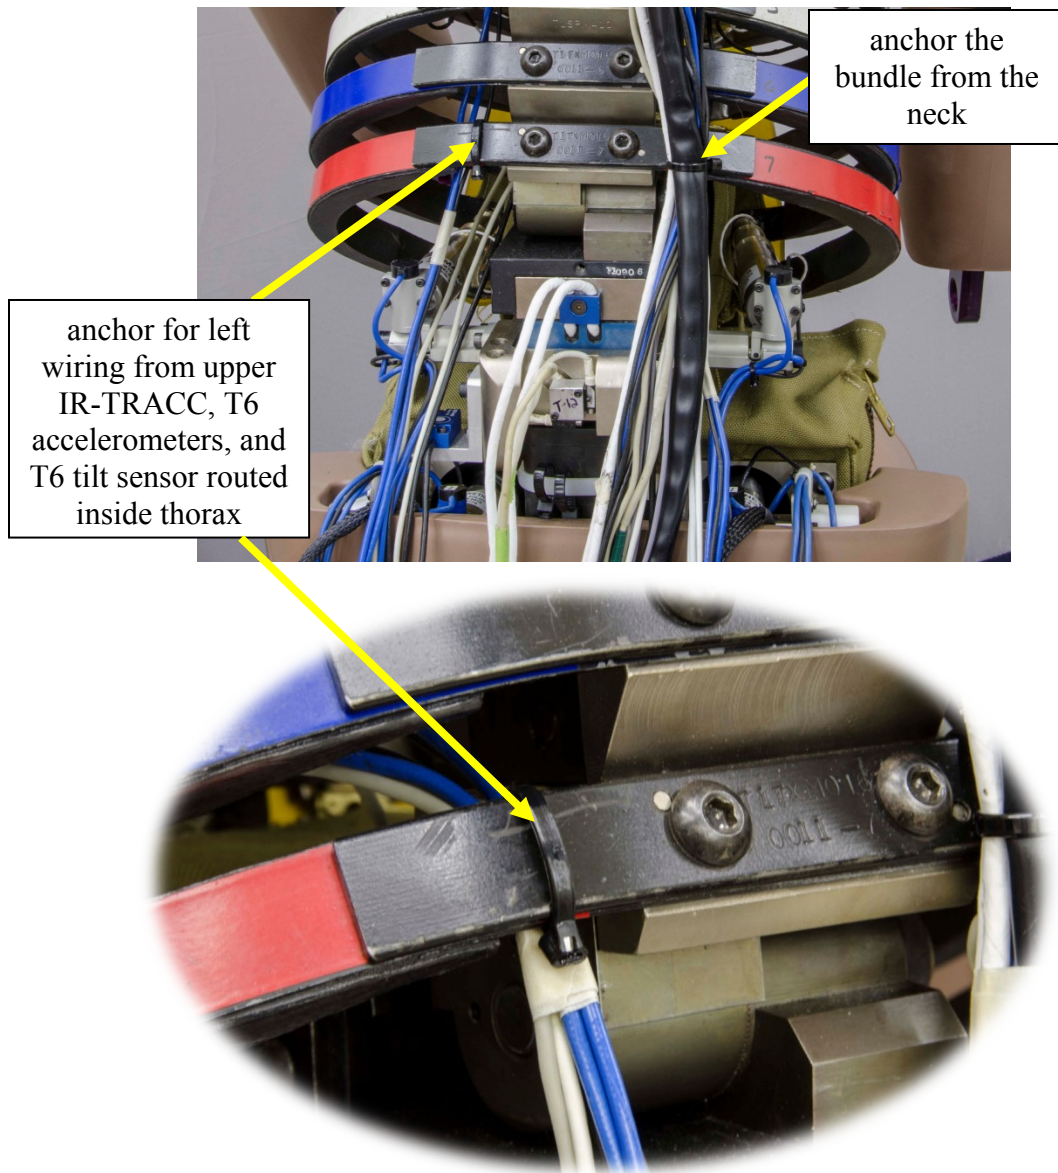

Figure 15-25. Gather and tie-wrap wiring on rib #7
15.4.2.5 Anchor the neck cable bundle at rib #7 (Figure 15-25). Route the wiring for the left and right upper thorax IR-TRACCs, the T6 accelerometer, and the T6 tilt sensor on the inside of the thorax close to the spine on its respective side. For wiring routed down the inside of the thorax on the left side, attach a tie-wrap to rib 7 on the left side. Use this tie-wrap to loop another one through to hold the internal wires.